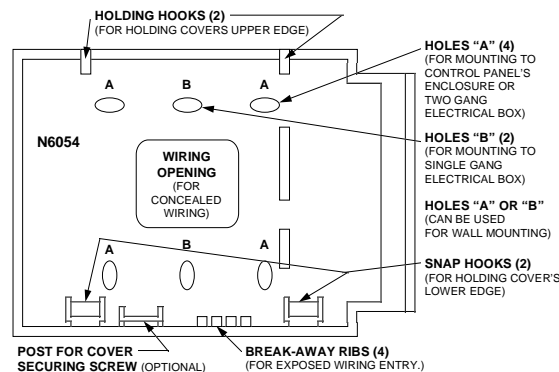

Figure 4. Rear Mounting Plate
Mount the rear plate as shown in Figure 4. Note that the plate is correctly oriented when its part number, molded into the plastic, is upright.
If the control panel enclosure has a keypad cutout on the front face, remove the cutout and mount the plate to the enclosure's face via HOLES "A" (see Figure 4) with the four screws and nuts provided.
2. Replace the keypad cover assembly on the rear plate. Starting at the upper edge of the plate, engage the plate's two HOLDING HOOKS (see Figure 4) into the recesses provided for them inside the upper edge of the cover assembly. Snap the lower edge of the cover assembly and the lower edge of the cover onto the two SNAP HOOKS at the lower edge of the plate.